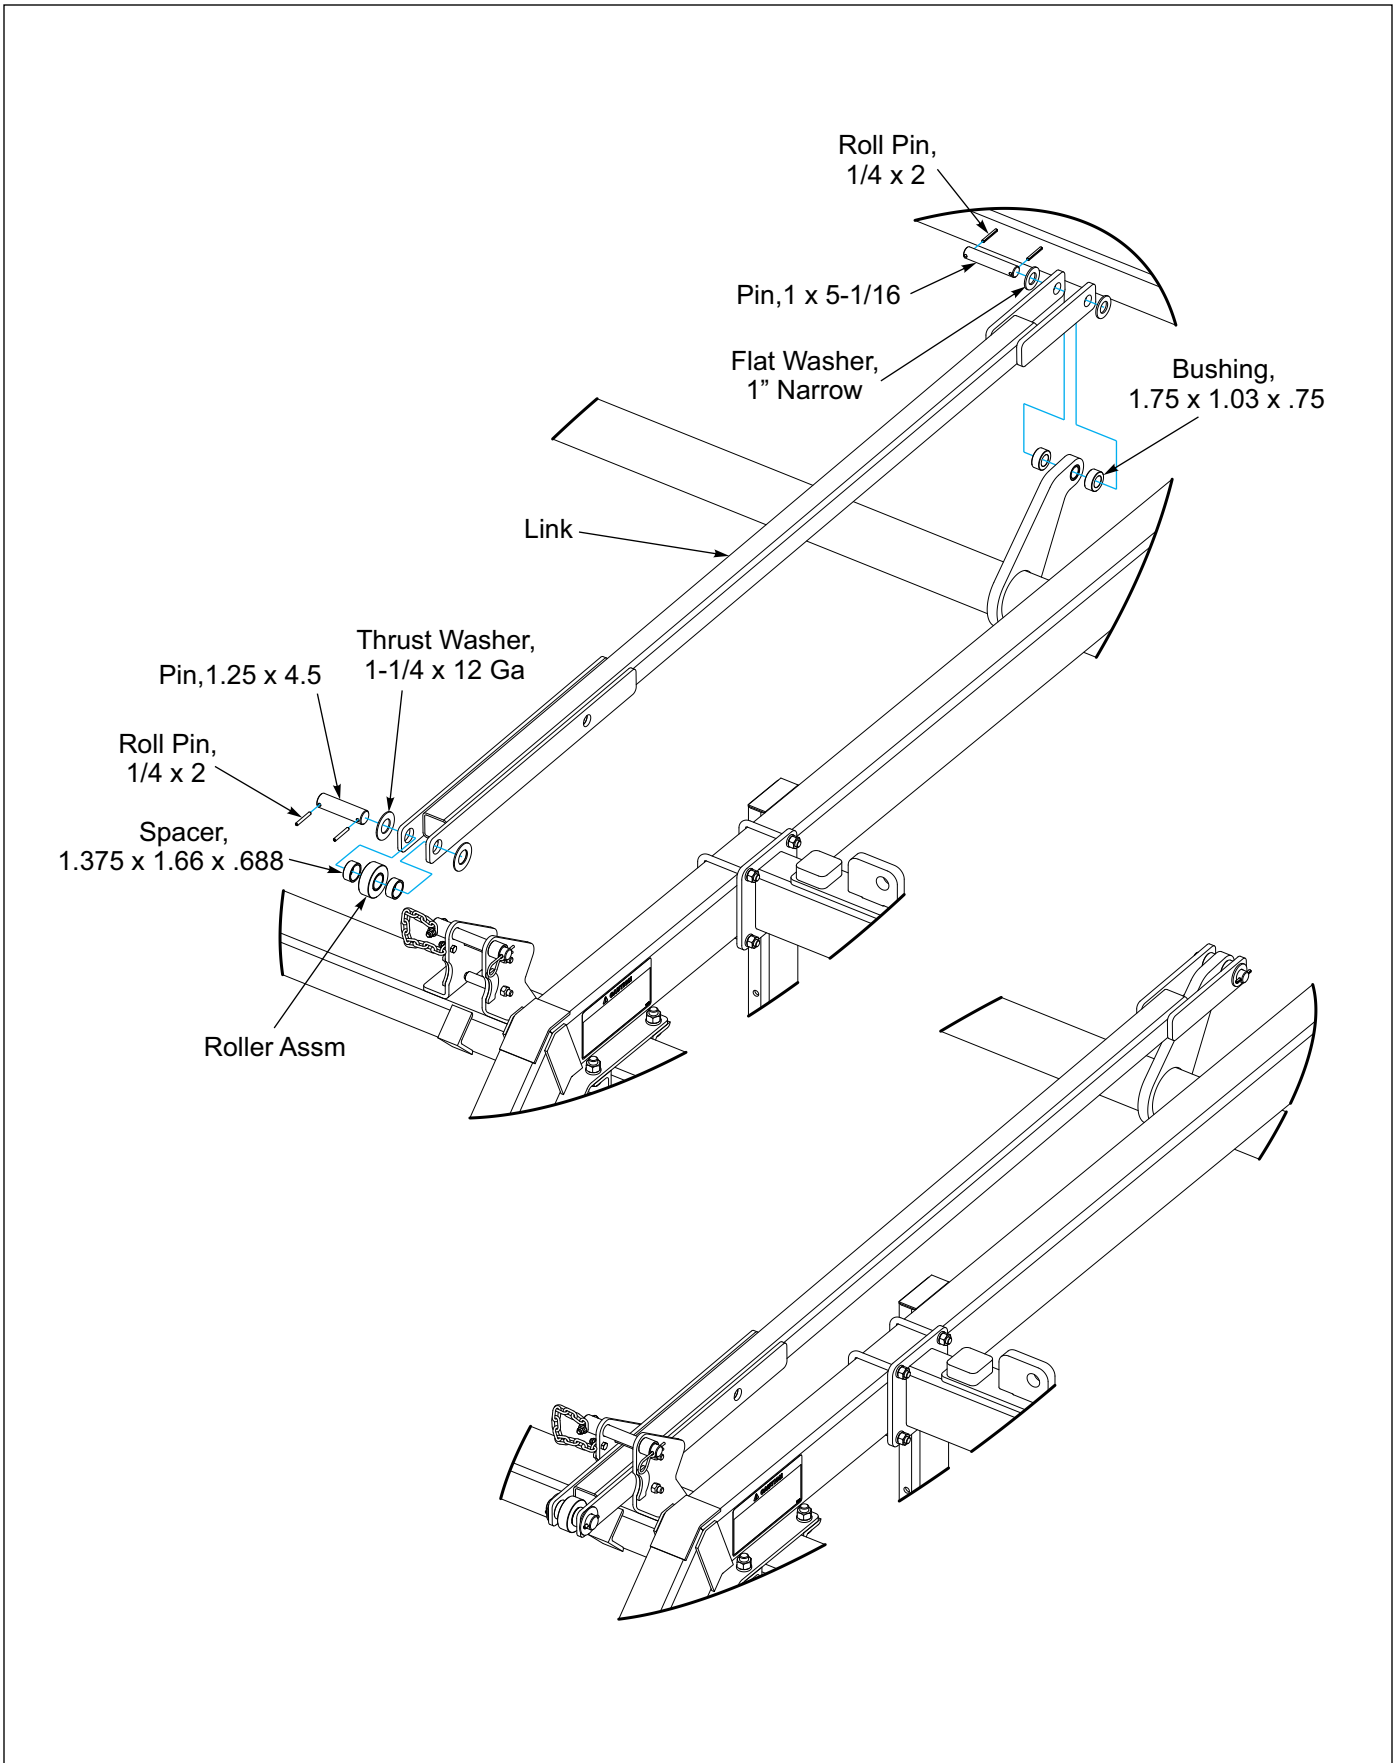

Figure 2-5: Transport Axle Link
2. Install the base end of the 3 1/2 x 16 Hydraulic Cylinder with ports up to the Rear Frame Lug and the Rod End to the Rockshaft Arm with the pins provided **See Figure 2-5.**
Position Link to the front of the machine on top of the installed Spacer (.546 x .84 x 3). **See Figure 2-5.** To contain the Link, insert in the top hole of the front frame tube angle a 1/2-13 x 5 Bolt and Locknut. Do not over tighten, Link must be free to pass between the Spacer and Bolt.
Align the Link single rear hole up with the Rockshaft Arm. Place a 1" Narrow Flat Washer on each side between the Rockshaft Arm and the Link and one on the outside of the Link, secure with 1 x 5-1/16 Pin and 1/4 x 2 Roll Pins. **See Figure 2-5.**